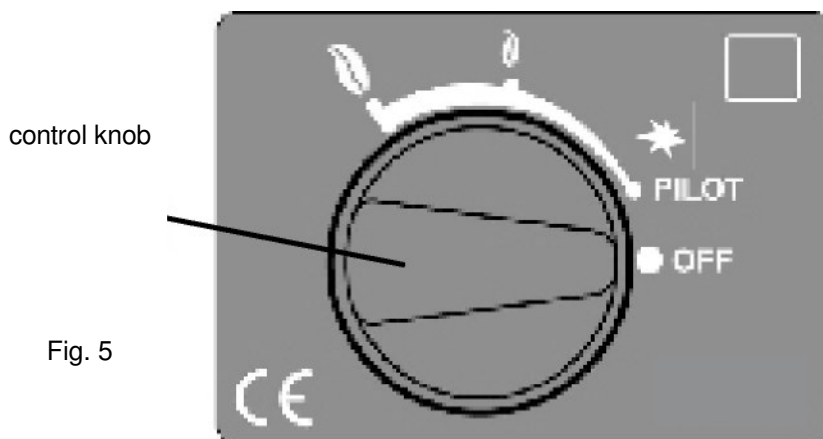

Fig. 5
a) Lighting the Pilot (Fig.5)
b) High Setting (Fig.5) If the pilot is not already lit, light the pilot as described above
c) Low Setting (Fig.5) If the heater is not already lit on 'HIGH' setting, ignite the heater to 'HIGH' setting as described above.
d) Turning the Heater OFF (Fig.5)
e) Turning the Pilot OFF (Fig.5) From any heat setting or the 'PILOT' position, depress the control knob fully and turn clockwise to 'OFF' position.